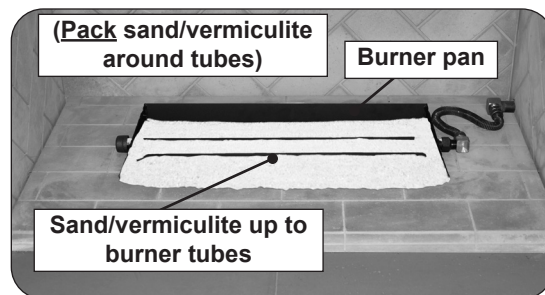

Fig. 12-1 Place sand/vermiculite
- Partially fill the burner pan with the sand/vermiculite until it rests at a level toward the top of the burner tubes as shown in Fig. 12-1.